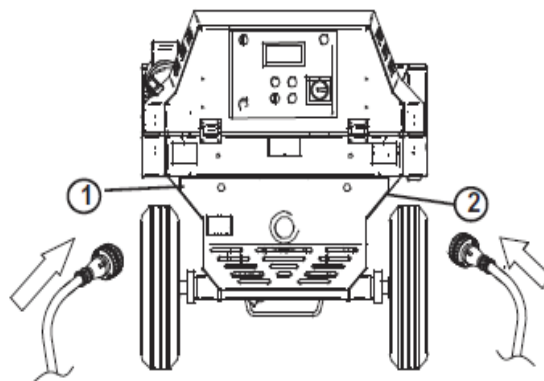

FIG. 6
Operation: after positioning and connecting the machine, and before pouring the material into the hopper, set the main switch to 1 (fig 6,7,ref1) to start up the vibrator. Pour in the required material and on completion turn the switch to OFF, removing any residue trapped in the screen.
10.1 ELECTRICAL CONNECTION (see fig.6)
Connect the plastering machine plug to the mains (fig. 6, ref. 1). The 2P+T single phase 3P+T 3-phase and socket for remote control 3P+T YELLOW must be mobile type IP67.
If the optional mixer is used, connect it to the plastering machine socket (fig. 6, ref. 2).